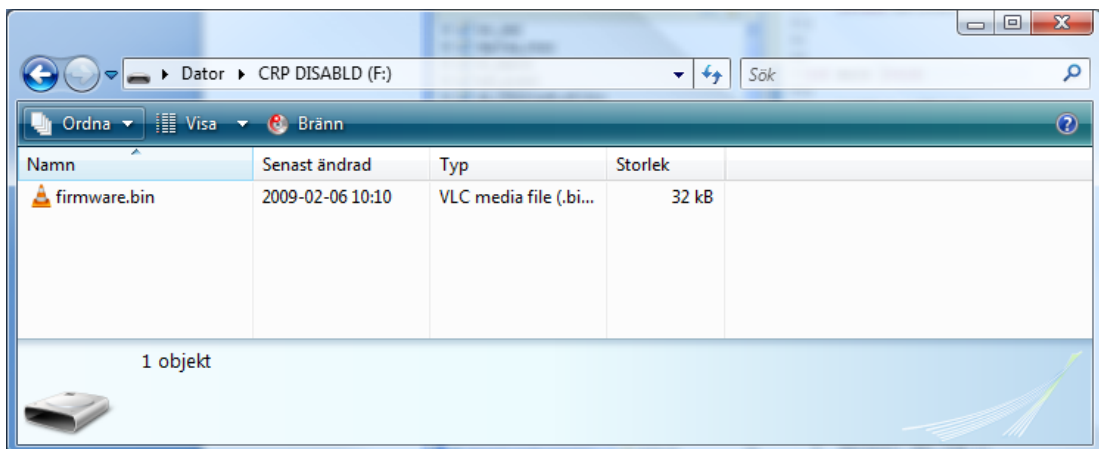

Figure 8 – Mass Storage Device
6. Press down the bootload push-button (SW2) and then press and release the reset push-button (SW1) on the *LPC1343 QuickStart Board*. A storage device named CRP DISABLD will now appear on your computer, see *Figure 8*.